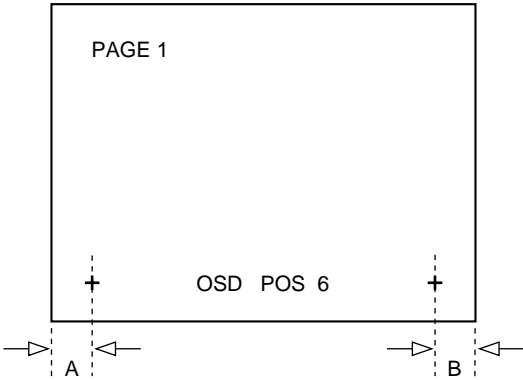

Fig.1-4
- Using the volume keys on the jig remote controller, adjust + marks on both side to be an equal distance from the edge of the screen. A=B. (Fig. 1-4)